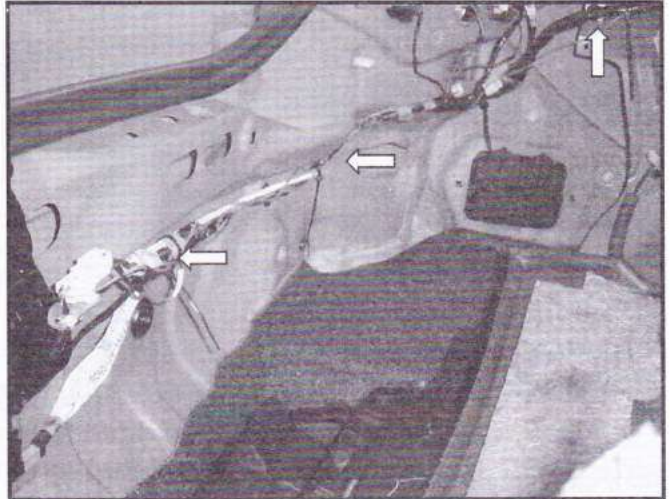

figure 18
3. Connect the supplied black wire 2-pin male/female connectors in series with the vehicle connectors. Route the black wire following the vehicle wiring to the LHS of the vehicle (refer to figure 18). Secure using supplied cables ties.